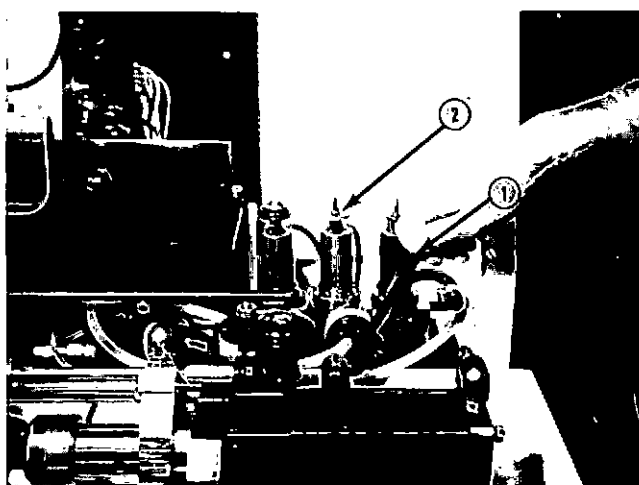

Fig. 4-29. Clamp pressure selection lever is set at the 74 psi position
3. The clamp plate selection lever (1, Fig. 4-29) is set at the extreme right, 74 psi [510 kPa] or PT position.
10. Place the 1 psi [6.9 kPa] trim weight (included in audit kit) on the roll pin in the dead weight stem. The dead weight and stem must fall. If not, the 74 psi [510 kPa] clamp pressure is high. Decrease clamp pressure by removing enough trim weights from the top hanger bracket (2, Fig. 4-29) so the dead weight and stem fall.
11. Remove the 1 psi [6.9 kPa] trim weight. The 73.5 psi [506 kPa] dead weight and stem must float free. If not, the 73.5 psi [506 kPa] clamp pressure is low. Increase pressure by adding enough trim weights to the top hanger bracket (2, Fig. 4-29) so the 73.5 psi [506 kPa] dead weight and stem float free.
12. When steps 9 and 10 are completed, the 74 psi [510 kPa] (PT) clamp pressure is accurately adjusted at 74 psi [510 kPa].